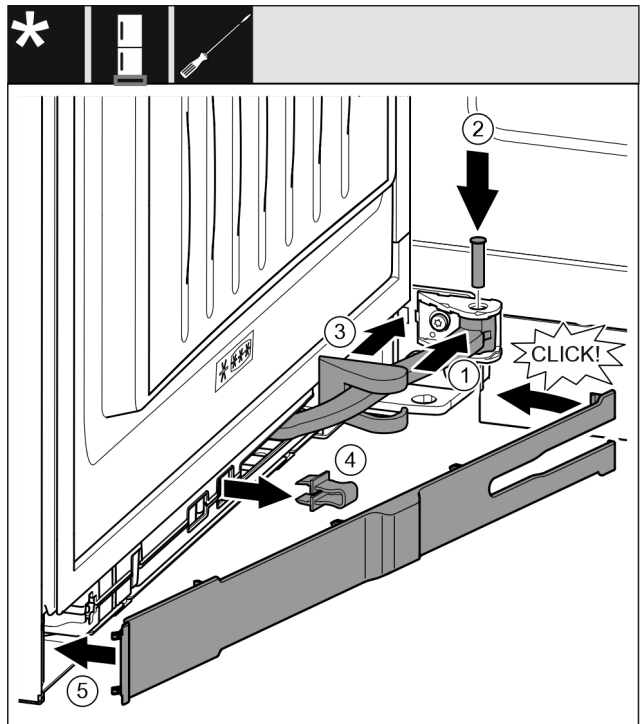

Fig. 47
- ▶ Turn the hinge in the mount. Fig. 47 (1)
- ▶ Insert the bolt with a T15 screwdriver in the mount and hinge. Make sure that the latching lug is sitting correctly in the groove. Fig. 47 (2)
- ▶ Push the bearing bracket cover along the hinge and fit it on the mount. *Fig. 47 (3)*
- ▶ Remove the locking device. *Fig. 47 (4)*
- ▶ Position the panel on the handle side and swing it in. *Fig. 47 (5)*